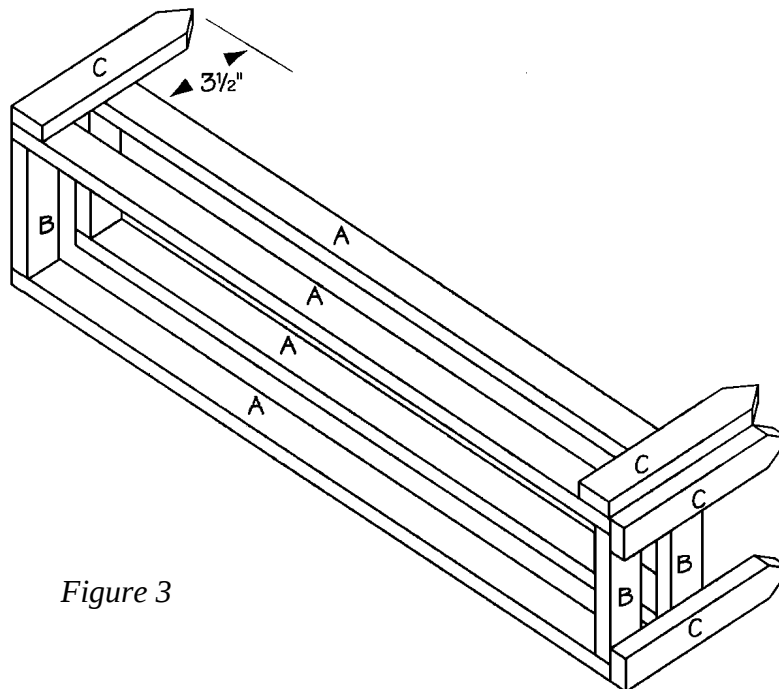

Figure 3
3. Lay the two support assemblies on a level surface, parallel to each other, 1-1/2" apart, with the long supports (A) on the top and bottom, and the short supports (B) on the sides. Attach fifteen pickets (C) to the top of both support assemblies, starting with the outer pickets, as shown in *Figure 3*, spacing them 1/2-inch apart. These